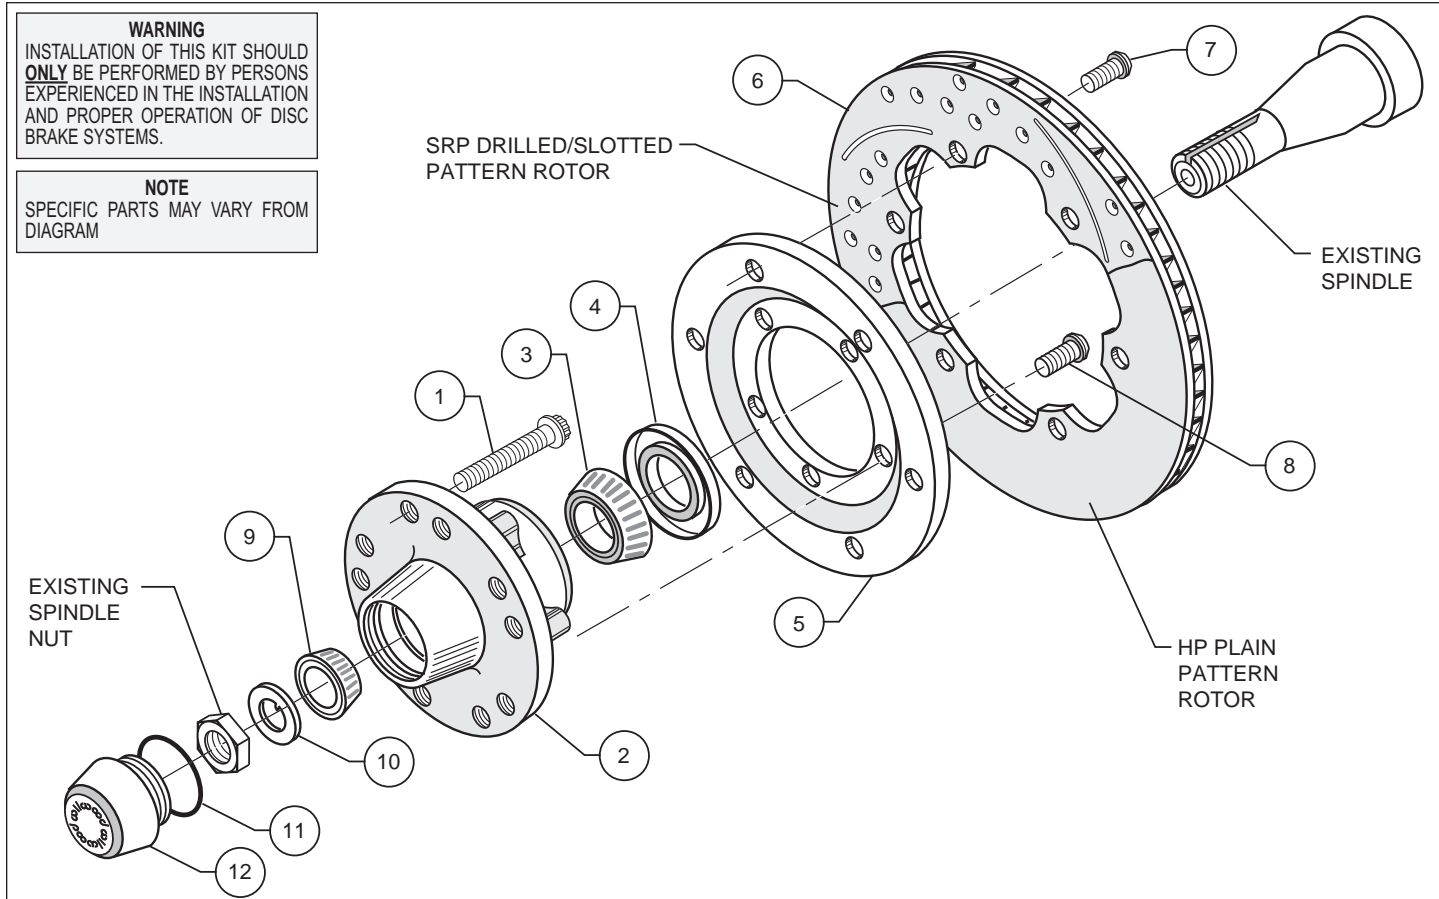

Figure 1. Typical Installation Configuration
- Install wheel studs (1) into the hub (2). Torque to 77 ft-lb. **NOTE:** *There are two five lug patterns in the hub (5 x 4.50 and 5 x 4.75). Make sure of the correct hole pattern for the correct wheel application before installing studs into hub.*
- Pack the large inner bearing cone (3) with high temperature disc brake bearing grease (available from your local auto parts store) and install into the backside of the hub (2).
- Install the grease seal (4) by pressing into the backside of the hub (2).
- Orient the rotor (6) and the rotor adapter (5) as shown in Figure 1. Attach the rotor to the adapter using bolts (7). Using an alternating sequence, apply red *Loctite*® 271 to the threads, and torque to 25 ft-lb.
- Mount the adapter/rotor assembly (5/6) to the hub (2) using bolts (8), as shown in Figure 1. Using an alternating sequence, apply red *Loctite*® 271 to the threads, and torque to 45 ft-lb.